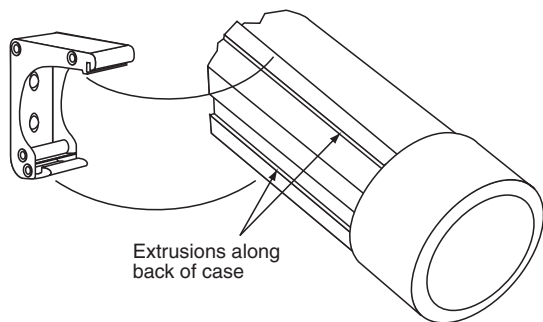
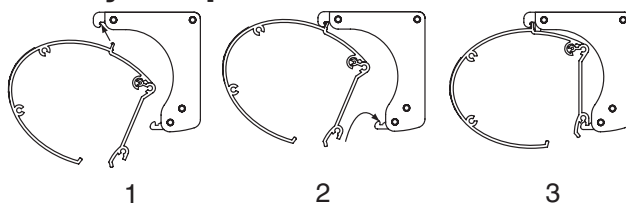

Figure 2
Figure 3
- ② Attach the screen by snapping the extrusions on the back of the case onto the brackets. With the lower edge of the screen case tilted away from the wall, engage the rib on top of the case with the slot in each bracket. Slide the screen case along the brackets to adjust the screen location from left to right if necessary (see Fig. 2). Once the case is in position, pivot the case back toward the brackets until the lower edge of the case "snaps" into place with the spring-loaded latch (see Fig. 3).